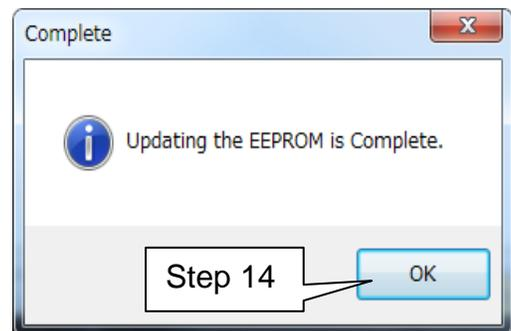

Figure 8
- After selecting OK in Figure 6, the OCS reprogramming will likely complete items 5 through 7 quickly (see "Complete" screen, Figure 8 below).
13 When this screen displays (Figure 8), OCS reprogramming is complete.